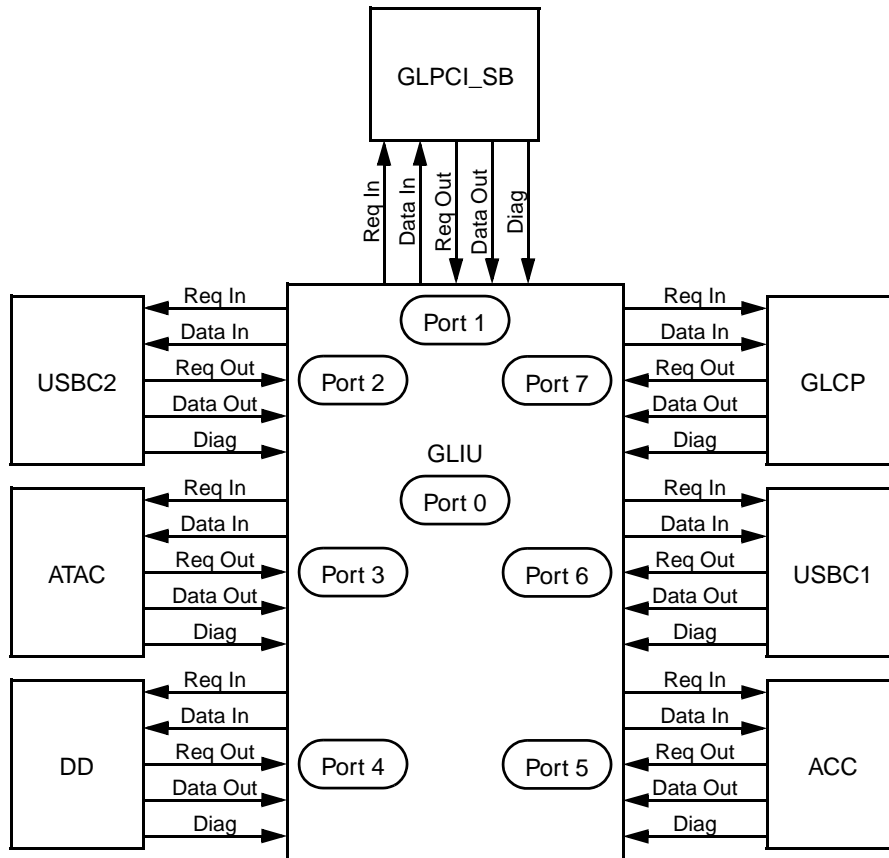

Figure 4-3. AMD Geode™ CS5535 Companion Device GeodeLink™ Architecture Topology
The connection of the GLIU to the seven GeodeLink Devices of the Geode CS5535 companion device is illustrated in Figure 4-3. Note the port number of the GeodeLink Device; by design convention, the GLIU is always Port 0. Part of the Physical to Device (P2D) descriptor is a port number. When there is a hit on the descriptor address, the port number indicates which GeodeLink Device to route the packet to. If there is no hit, then the packet is routed to the default port. For the Geode CS5535 companion device, the default is always Port 4, that is, the Diverse Device (DD).